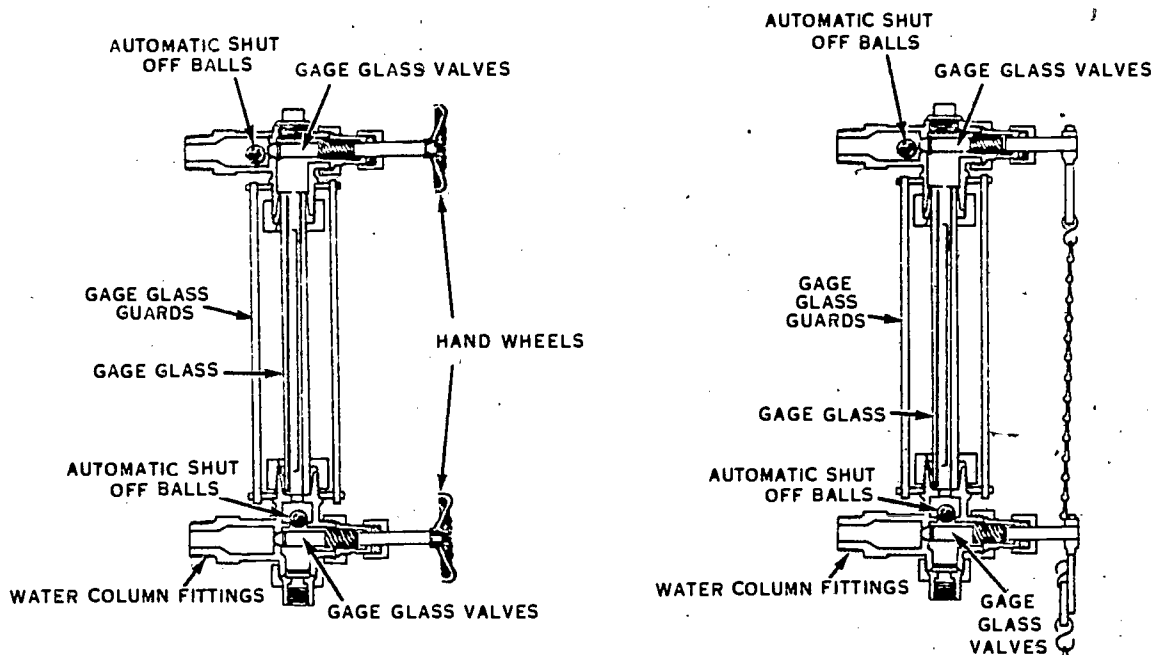

Figure 39. Gage glasses.
43. *Pressure control.* Pressure controls are designed primarily for steam-heating systems, but are also available for controlling air, liquids, or gases that are not chemically injurious to the control. The purpose of the pressure control is to control the pressure in the boiler, to secure the fuel-burning equipment when the pressure reaches a predetermined cutout, and to start the fuel-burning equipment when the pressure drops to the cut-in point. There are two settings on the pressure control: the cut-in point and the differential. To find the cutout point you add the differential to the cut-in pressure. For example, if you were operating a boiler with a cut-in pressure of 90 pounds and a differential of 13 pounds, the cutout pressure should be 103 pounds. When excessive vibrations are encountered, you should mount the pressure control remotely from the boiler on a solid mounting with a suitable piping connection between them. Pressure controls that are located remotely from the boiler must be installed at a slightly higher level than that shown in figure 39. The piping must be properly pitched to drain all condensation back into the boiler. A siphon must be connected between the pressure control and the boiler.
47. Water-gage glasses, shown in figure 39, are used with boilers operating at low and medium pressures. Each consists of a strong glass tube connected to the boiler or water column by two special fittings. These fittings sometimes have an automatic shutoff device, usually nonferrous balls,